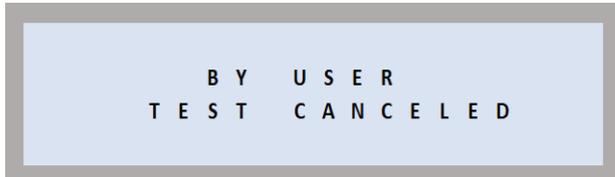
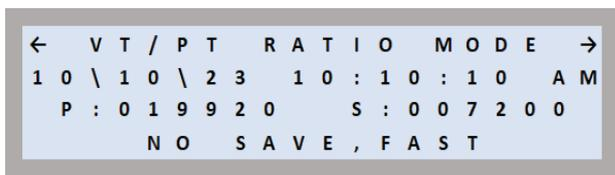
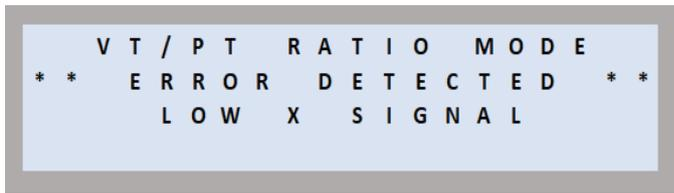

Figure 99
Figure 100
Figure 107
*For Typical Connection: VT/PT see Figure 99 & Figure 100, CT see Figure 107*